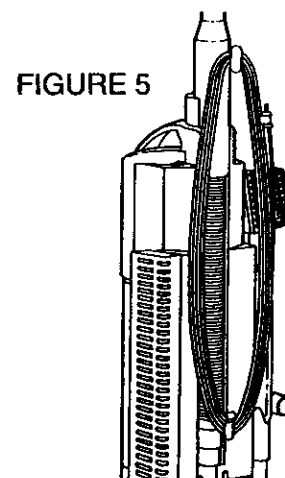

FIGURE 5
- To store the Cord on the machine, wind the Power Cord around the Upper and Lower Cord hooks. Fasten the Cord Plug to the Power Cord by snapping the Cord Plug Retainer over the Power Cord. (Figure 5)